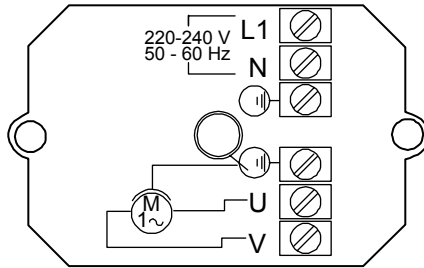

Fig. 4
- To ensure water tightness and pull-force relief from the cable glands the power cable must be of sufficient outside diameter (e.g. 05 VV-F 3 (7) G 1,5 oder AVMH-I 3 (7) x 1,5).
- All electrical wiring to be executed according to Fig.4.